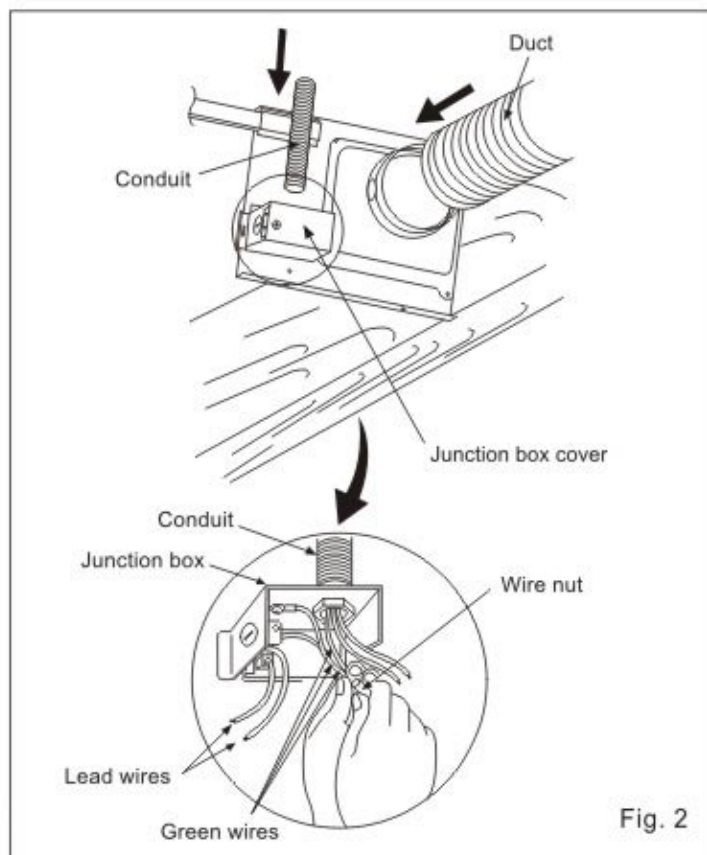

Fig. 2
3. Remove junction box cover and secure conduit to junction box knock-out hole. (Fig.2)
- Inspect duct work and wiring following Fig.2 of page 6.